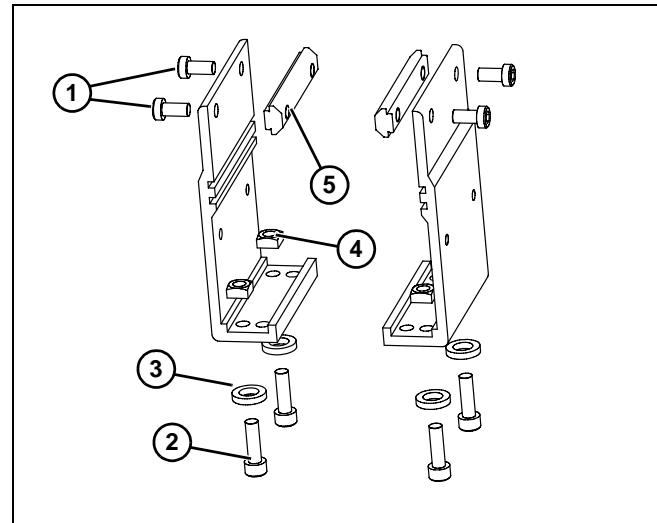
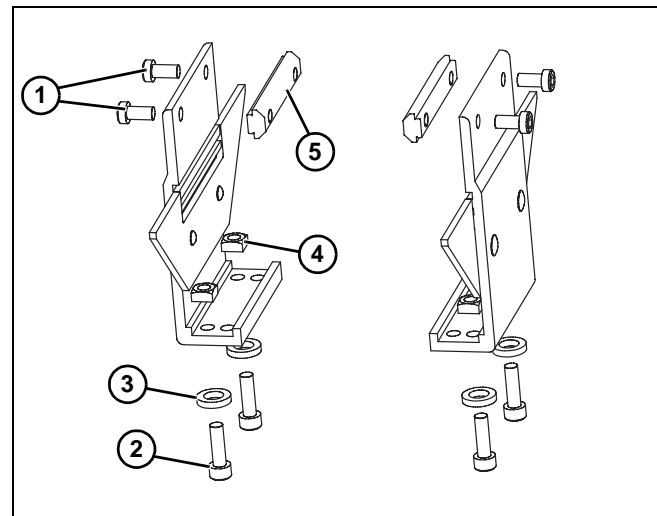
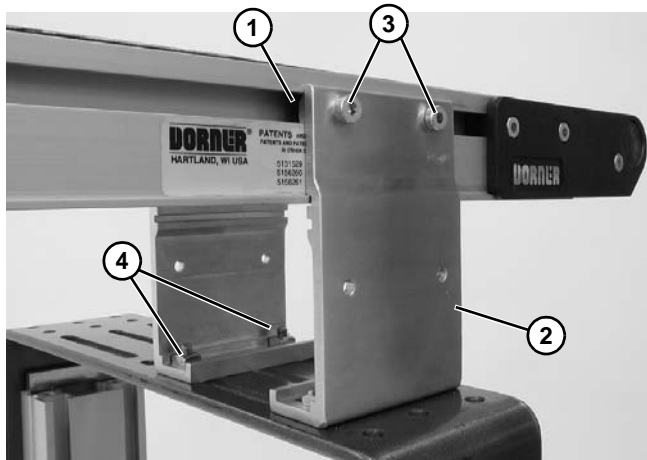

Figure 6
Figure 7
Figure 8
1. Locate brackets. Exploded views shown in **Figure 6** and **Figure 7**.
2. Remove screws (**Figure 6, item 1** and **2**) or (**Figure 7, item 1** and **2**), washers (**Figure 6, item 3**) or (**Figure 7, item 3**), nuts (**Figure 6, item 4**) or (**Figure 7, item 4**), and T-bars (**Figure 6, item 5**) or (**Figure 7, item 5**), from brackets.
3. Insert T-bars (Figure 6, item 5) or (Figure 7, item 5) into conveyor side slots (Figure 8, item 1). Fasten brackets (Figure 8, item 2) to conveyor with mounting screws (Figure 8, item 3).
4. Fasten brackets to support stand with mounting screws, washers, and nuts (Figure 8, item 4).
5. Tighten screws (Figure 8, item 3), and mounting screws on nuts (Figure 8, item 4) to 60 in-lb (7 Nm).